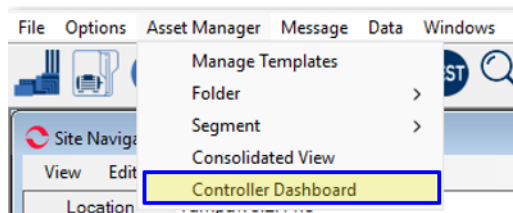

Figure 28: Open Controller Dashboard
1. Using Asset Manager, open the Controller Dashboard (Figure 28).